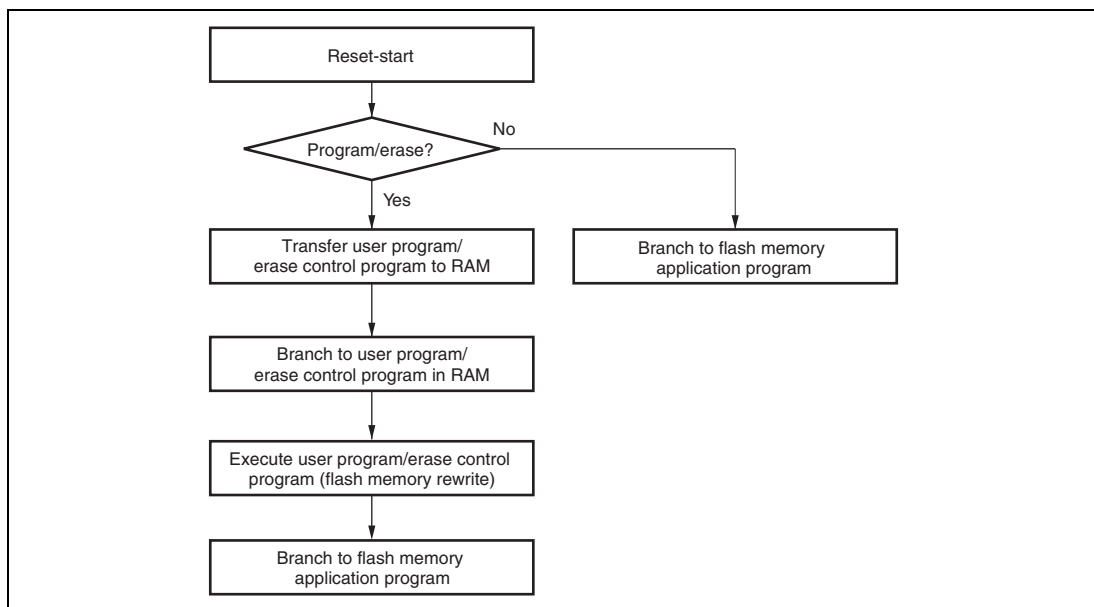

Figure 16.8 Programming/Erasing Flowchart Example in User Program Mode
5. In boot mode, a part of the on-chip RAM area is used by the boot program. Addresses H'FFE080 to H'FFE87F is the area to which the programming control program is transferred from the host. Note, however, that ID codes are assigned to addresses H'FFE080 to H'FFE087. The boot program area cannot be used until the execution state in boot mode switches to the programming control program. Figure 16.8 shows the on-chip RAM area in boot mode.
6. Before branching to the programming control program (H'FFE088 in the RAM area), this LSI terminates transfer operations by the SCI_1 (by clearing the RE and TE bits in SCR to 0), but the adjusted bit rate value remains set in BRR. Therefore, the programming control program can still use it for transfer of write data or verifying data with the host. The TxD1 pin is in high-level output state. The contents of the CPU general registers are undefined immediately after branching to the programming control program. These registers must be initialized at the beginning of the programming control program, since the stack pointer (SP), in particular, is used implicitly in subroutine calls, etc.